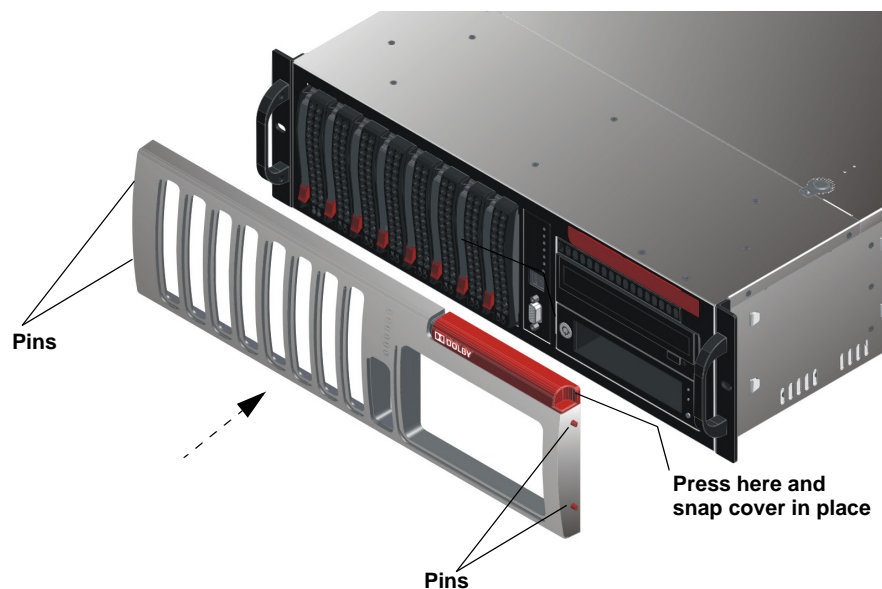

Figure 7 Replace Front-Panel Cover
- Place a finger on the cover's right indent, press inward to depress the two pins, line up the pins with their respective holes, then release your finger to insert the pins and snap the cover in place (see Figure 7).